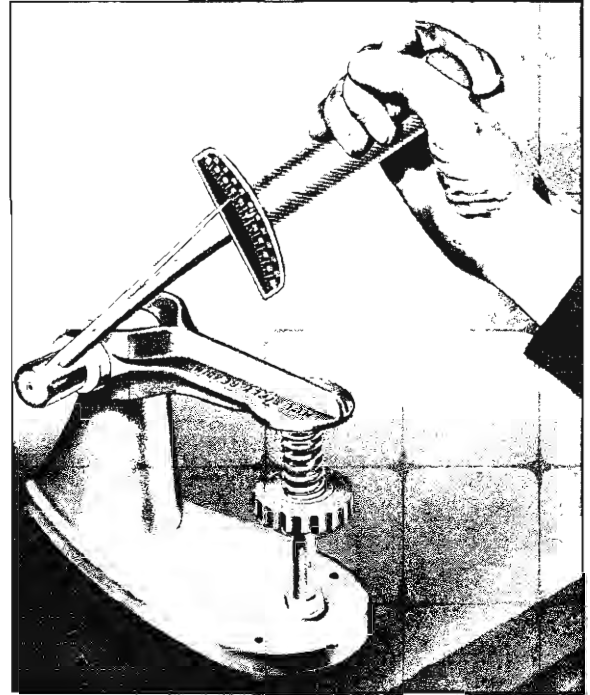

Fig. 12—Checking Valve Spring Tension
4. Check valve spring tension with Tool J-8056 spring tester (fig. 12).